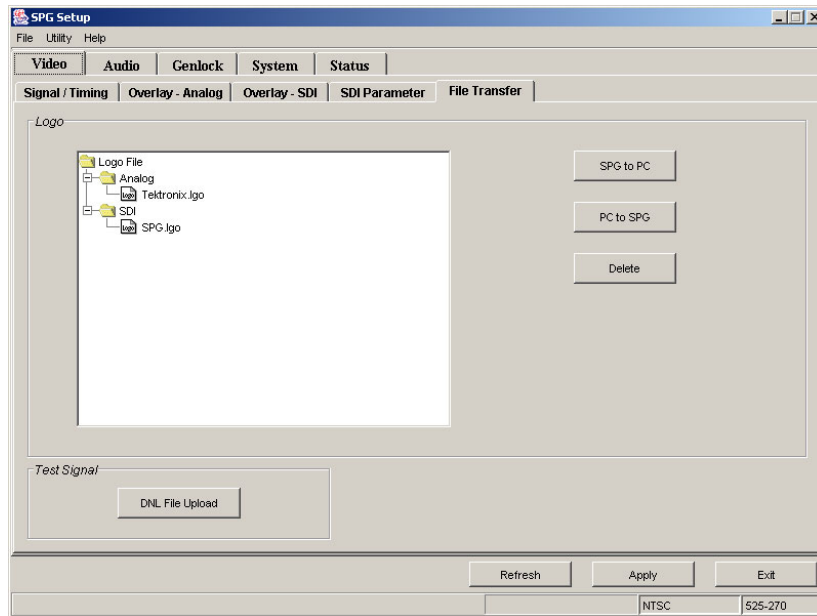

Figure B-5: File Transfer setting panel
2. Click the **File Transfer** tab to open the setting panel for file transfers (see Figure B-5).